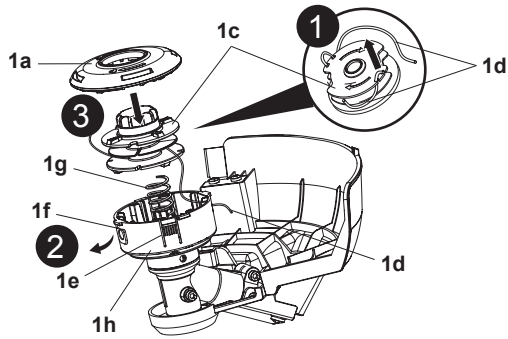

Fig. 57
9. Release the trimming line (1d) from the notches and hold it in position. Avoid the trimmer line (1d) separating from the trimming spool (1c) (Fig. 57, step 1).
10. Lead the trimming line end through the eyelet (1f) on the housing (1h) (Fig. 57, step 2).
12. Insert the trimming spool (1c) into the housing (1h) (Fig. 57, step 3).